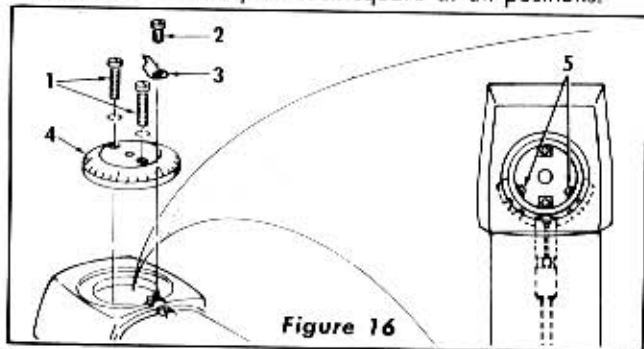

Figure 16
- Remove three screws (Item 1 and 2, figure 16), indicator (Item 3) and radial arm cap (Item 4).
- Retighten hex head screws (Item 5, figure 16) and arm latch handle.
- After blade is square to fence reassemble radial arm cap and indicator using screws (Item 1 and 2, figure 16). Set indicator at 0°.